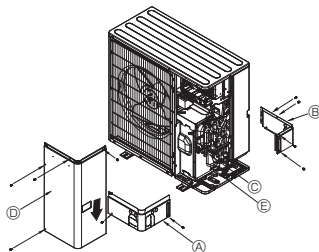

Fig. 5-3
5.3. Refrigerant piping (Fig. 5-3)